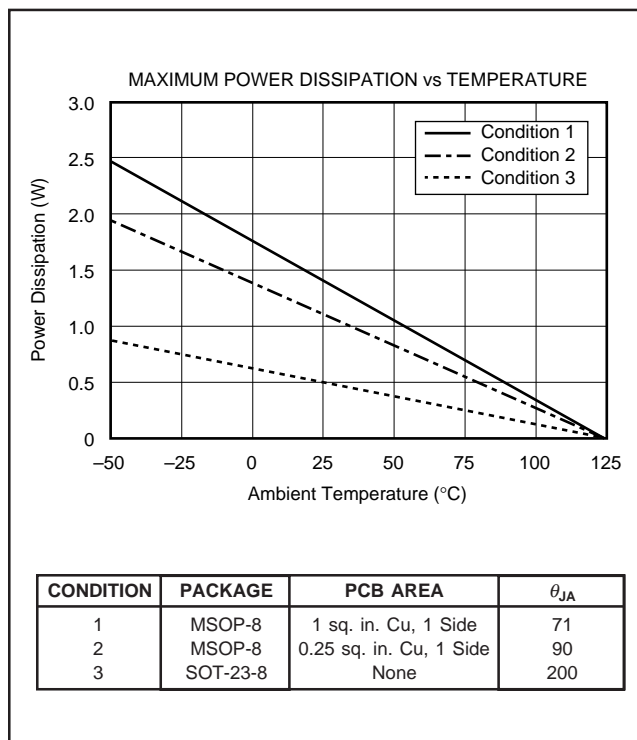
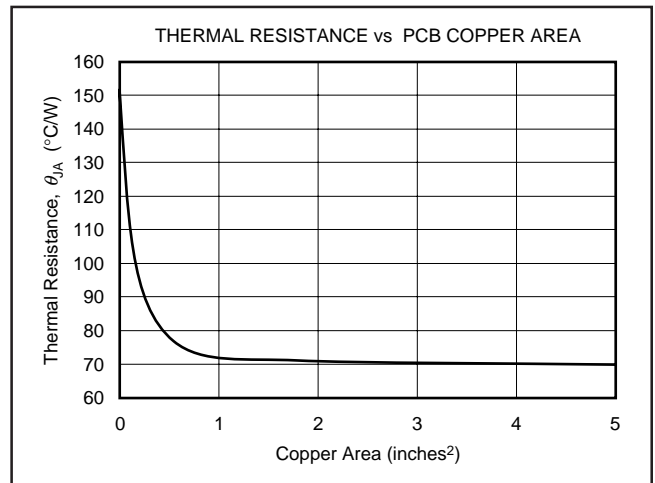

FIGURE 6. Maximum Power Dissipation versus Ambient Temperature for the Various Packages and PCB Heat Sink Configurations.
FIGURE 7. Thermal Resistance versus PCB Area for the MSOP-8.
(4) For $V_{ENABLE} > 6.5\text{V}$, see typical characteristic I_{ENABLE} vs V_{ENABLE} .
(5) The REG113 no longer regulates when $V_{IN} < V_{OUT} + V_{DROP(MAX)}$. In dropout, the impedance from V_{IN} to V_{OUT} is typically less than 1Ω at $T_J = +25^\circ\text{C}$.
(6) See Figure 7.
The REG113 is available in two different package configurations. The ability to remove heat from the die is different for each package type and, therefore, presents different considerations in the printed circuit board (PCB) layout. On the MSOP-8 package, leads 5 through 8 are fused to the lead frame and may be used to improve the thermal performance of the package. The PCB area around the device that is free of other components moves the heat from the device to the ambient air. Although it is difficult or impossible to quantify all of the variables in a thermal design of this type, performance data for several simplified configurations are shown in Figure 6. In all cases the PCB copper area is bare copper, free of solder resist mask, and not solder plated. All examples are for 1-ounce copper and in the case of the MSOP-8, the copper area is connected to fused leads 5 to 8. See Figure 7 for thermal resistance for varying areas of copper. Using heavier copper can increase the effectiveness in removing the heat from the device. In those examples where there is copper on both sides of the PCB, no connection has been provided between the two sides. The addition of plated through holes will improve the heat sink effectiveness.